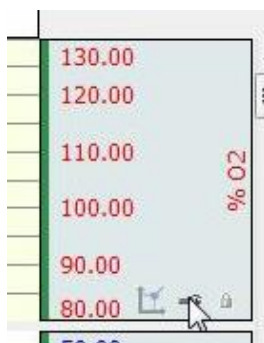
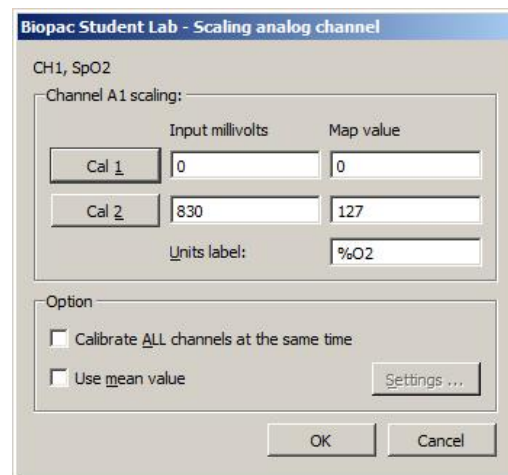

Figure 3
Figure 4
6. Using the arrow selection tool, click the wrench button in the units (% O2) region of CH 1 (SpO2) as shown in Figure 3 to display the Scaling dialog shown in Figure 4.